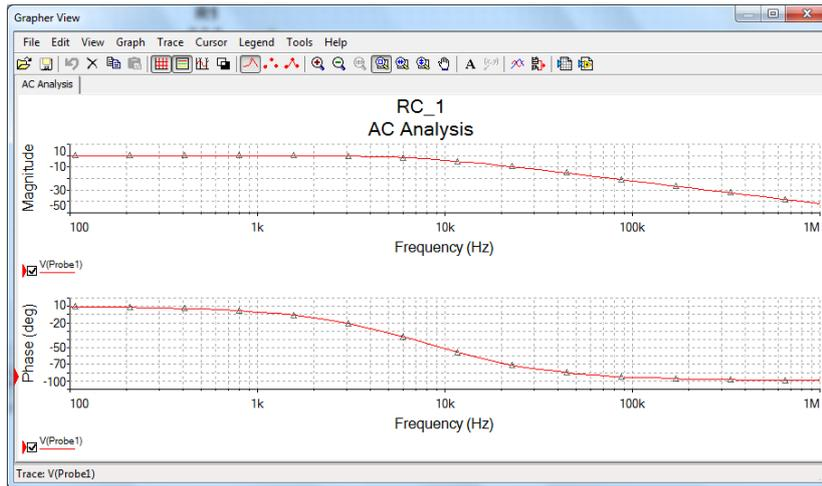
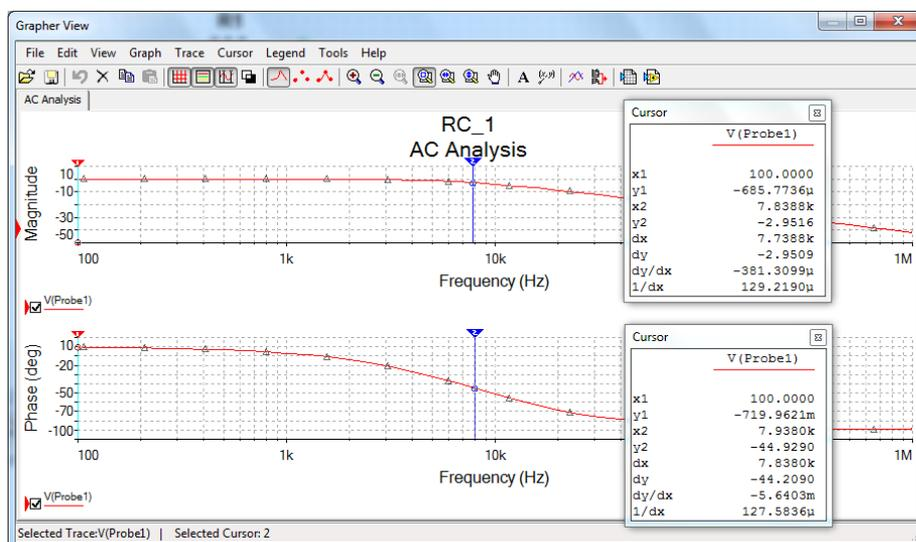

Figure 10: "Grapher" View – Bode Plot
Figure 11: Using the cursors
- Click Simulate. The analysis runs and a "Grapher View" window opens automatically to show a frequency and phase response or Bode Plot, figure 10. Use the appropriate buttons to change the black background to white and to turn on grid lines for both graphs.
In order to read accurate 'X' and 'Y' values from a trace, it is necessary to use the **cursors**. By placing a cursor on a trace, you can move it along the trace and read off the 'X' and 'Y' values at any point. Explore the menu items in the Grapher Window, especially **Cursor**. From the initial display (figure 10) let's add cursors as shown in Figure 11 below.